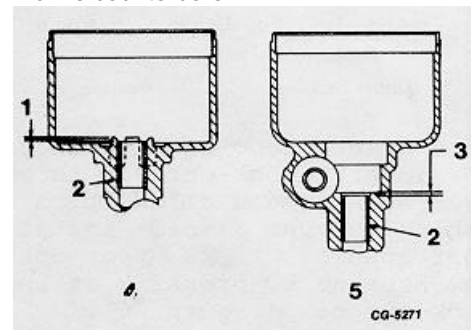

Fig. 30. Upper Bushing Location Dimensions
- Press upper bushing into housing to dimension shown in Figure 30: